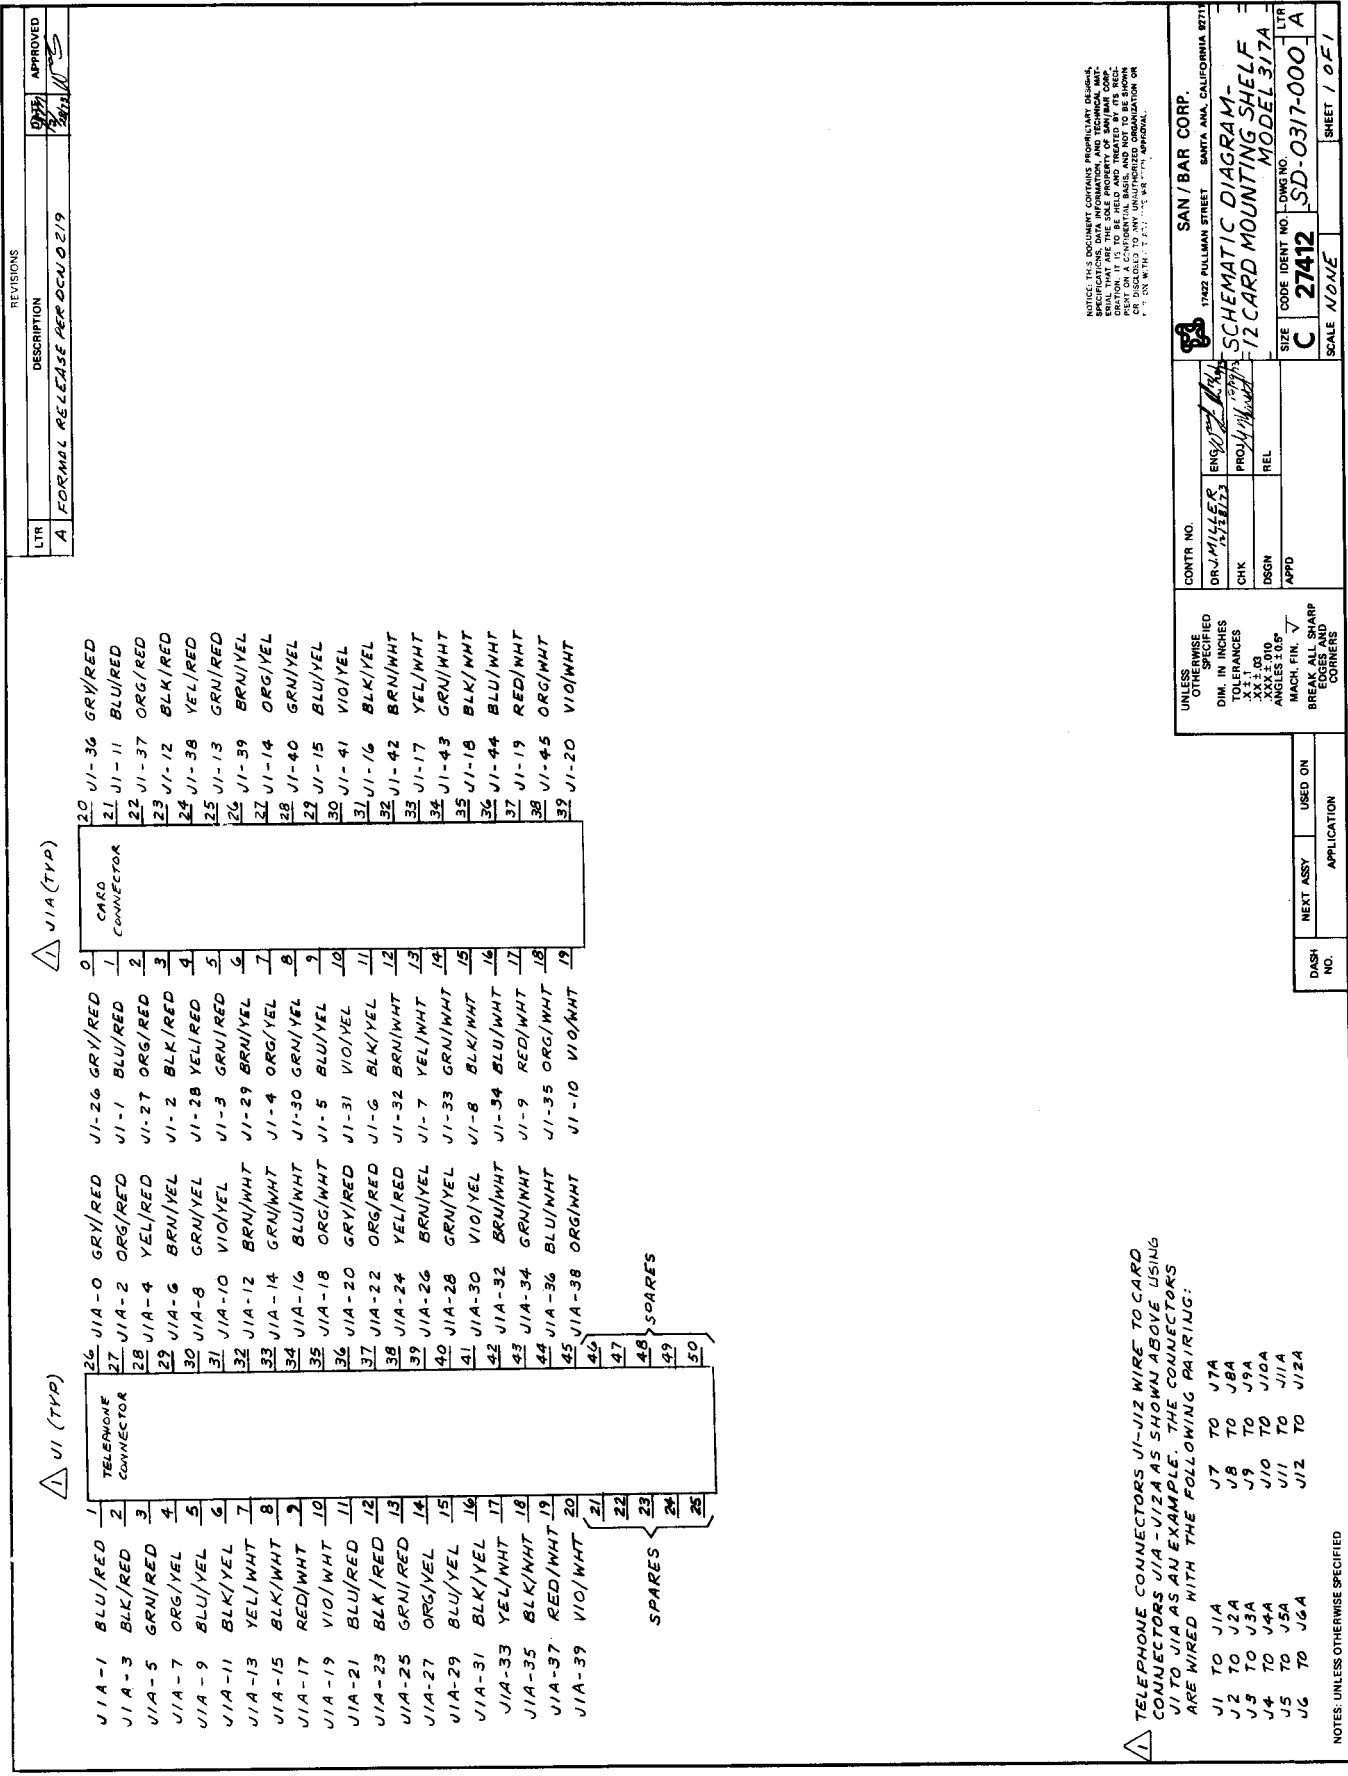

Fig. 4
- (b) Schematic Drawing No. SD-0317-000 (Fig. 4) not applicable to SB317A-2 and -3
The telephone connector interface is arranged such that there are three groups of four connectors each. Therefore, four-connector, 100 pair cables (Amphenol AC-A100C or equivalent) may be used to interface the shelf, (See Fig. 2). Refer to the schematic drawing (Fig. 4) for the complete pin assignments appearing at each connector. Since all the pin connections appear at the telephone connectors, no installer wiring internal to the shelf is required.